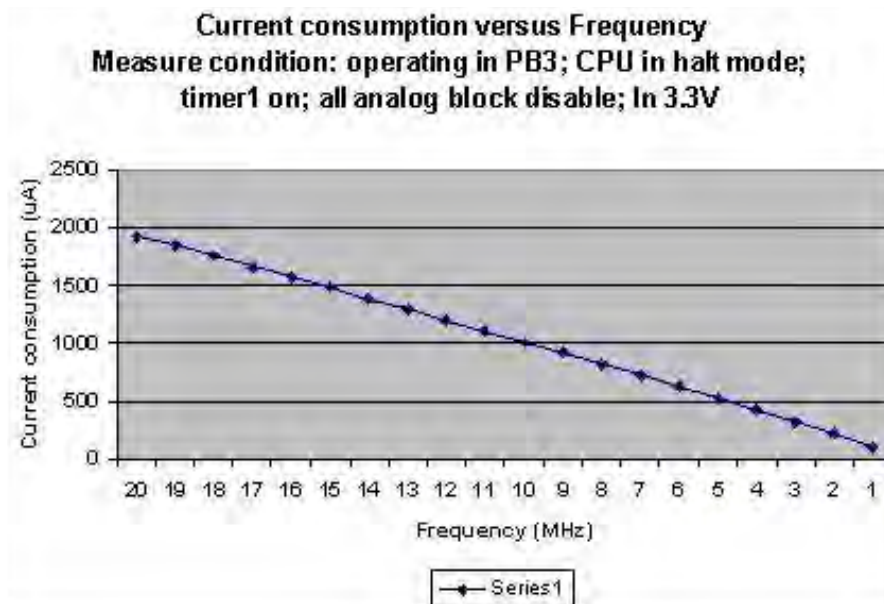
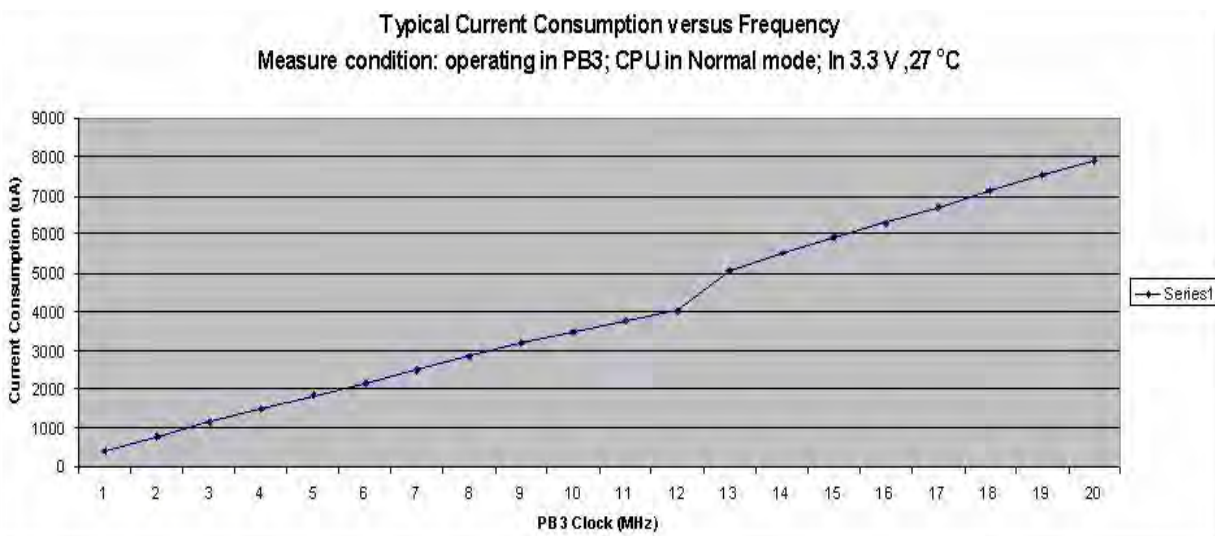

Figure 28. ICC versus System Clock Frequency (HALT Mode)
Figure 29. ICC versus System Clock Frequency (NORMAL Mode)
3. See Figure 28 on page 187 on page 187 for HALT Mode current and Figure 29 on page 187 for ACTIVE (Normal) Mode current. The typical values are taken from the chart at 20MHz.
Figure 28 displays the typical current consumption while operating at 25°C and 3.3V versus the system clock frequency in HALT Mode.
Figure 29 displays the typical current consumption versus the system clock frequency in NORMAL Mode.